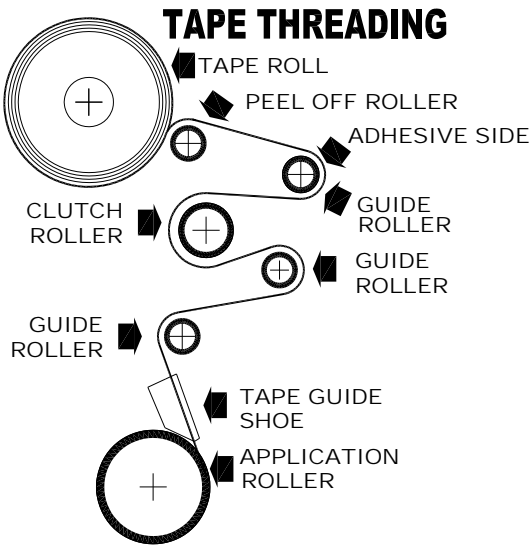

Figure 7-6
1. As illustrated in **Figures 7-6 & 7-7**, first thread the tape tail over the **Peel Off Roller**.